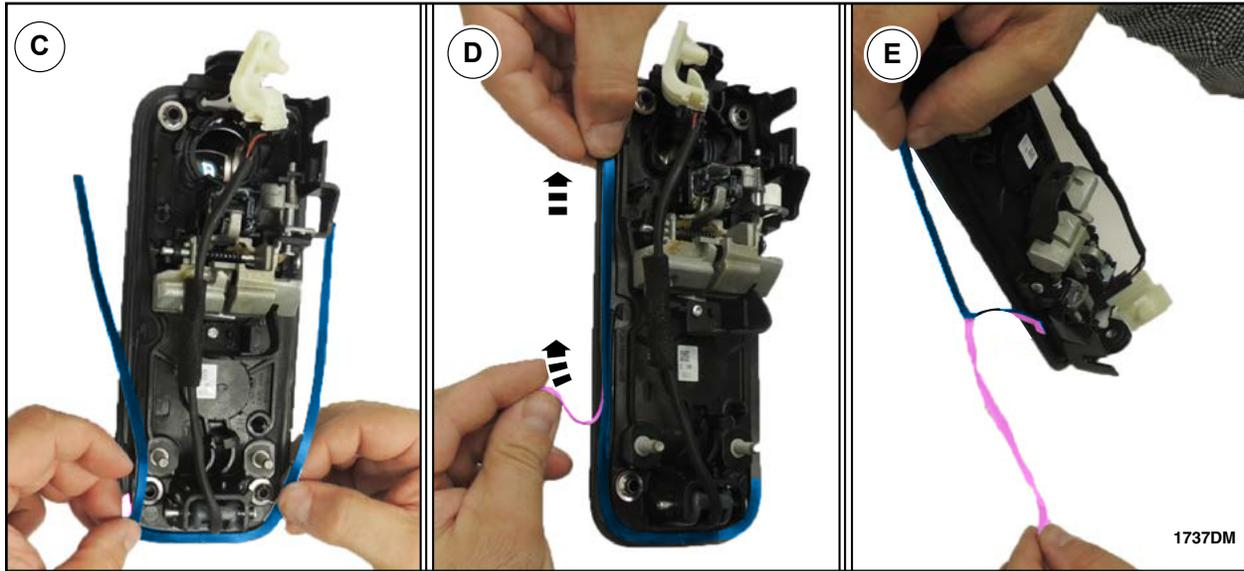

FIGURE 25
- C. Align the marks made on the Foam E and exterior door handle and adhere the back center portion to the exterior door handle as shown in Figure 25.
- D. Lay one side of Foam E down on the exterior door handle and without stretching the foam pull off the adhesive backing as you adhere Foam E to the exterior door handle as shown in Figure 25.
- E. Remove the protective backing from the other side of Foam E as shown in Figure 25.